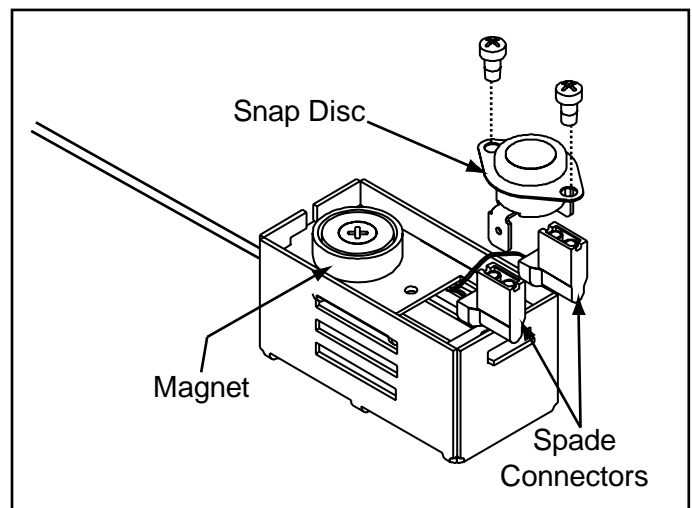

Figure 34.4
3. Pull the snap disc and spade connectors up and out of bracket as shown in **Figure 34.4.**